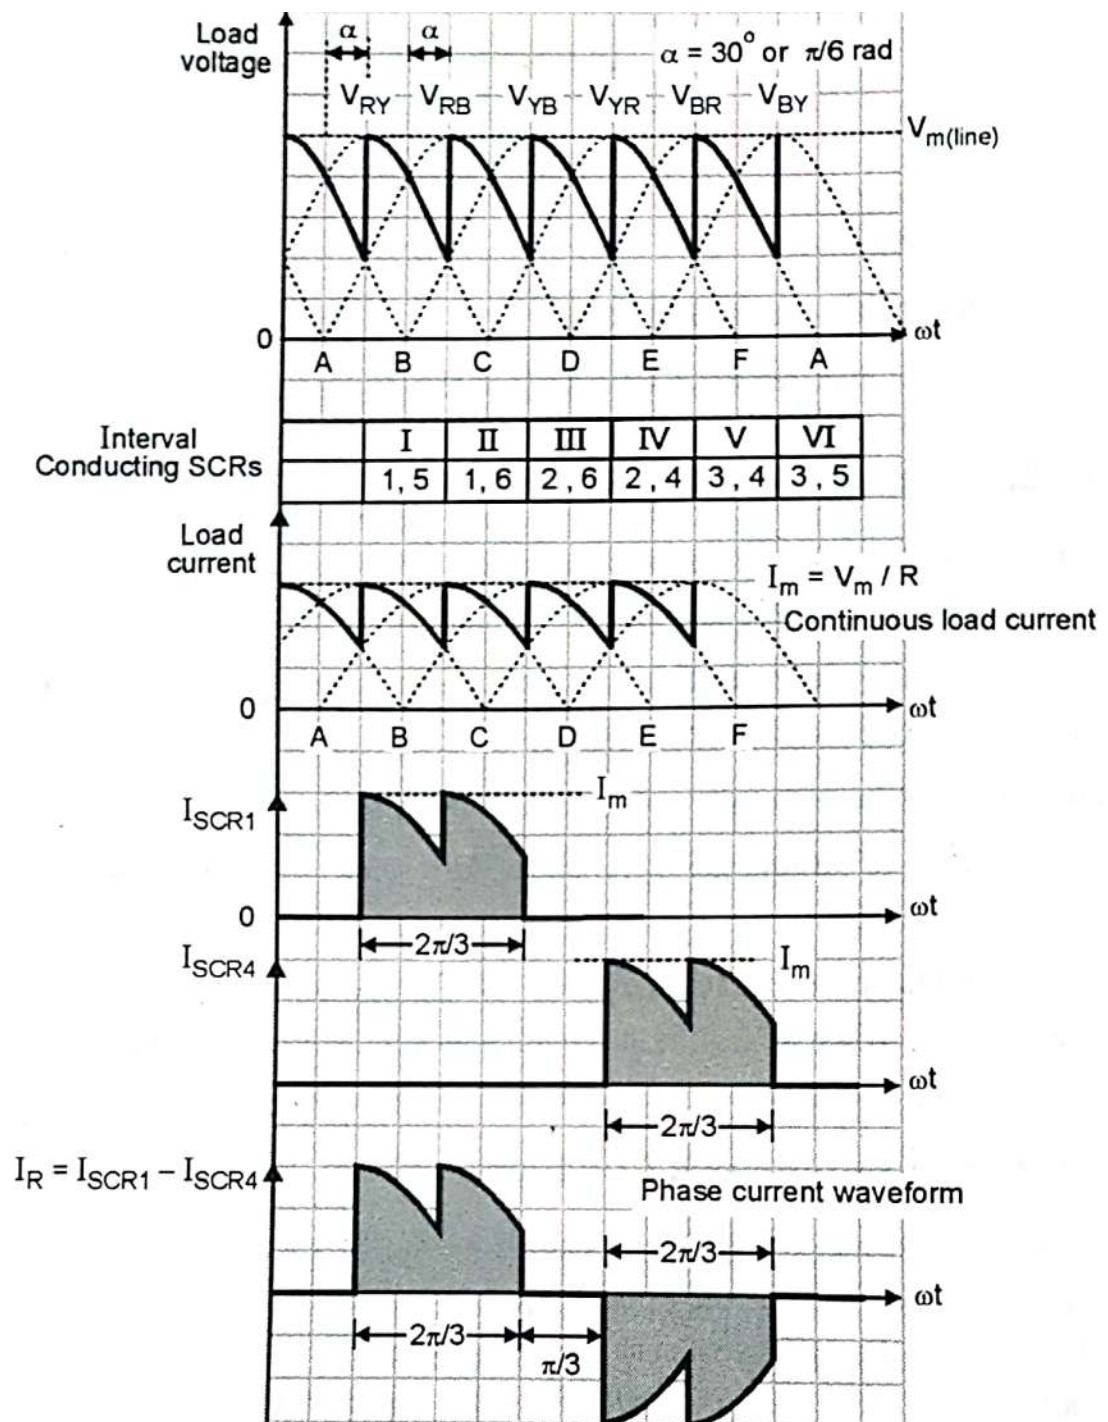

Fig. 8.7.8 : Voltage and current waveforms for a full converter with a resistive load (Continuous conduction mode)
- The load voltage and other waveforms are as shown in Fig. 8.7.8. As can be seen the load voltage waveform has 6 pulses, making the ripple frequency = 300 Hz.